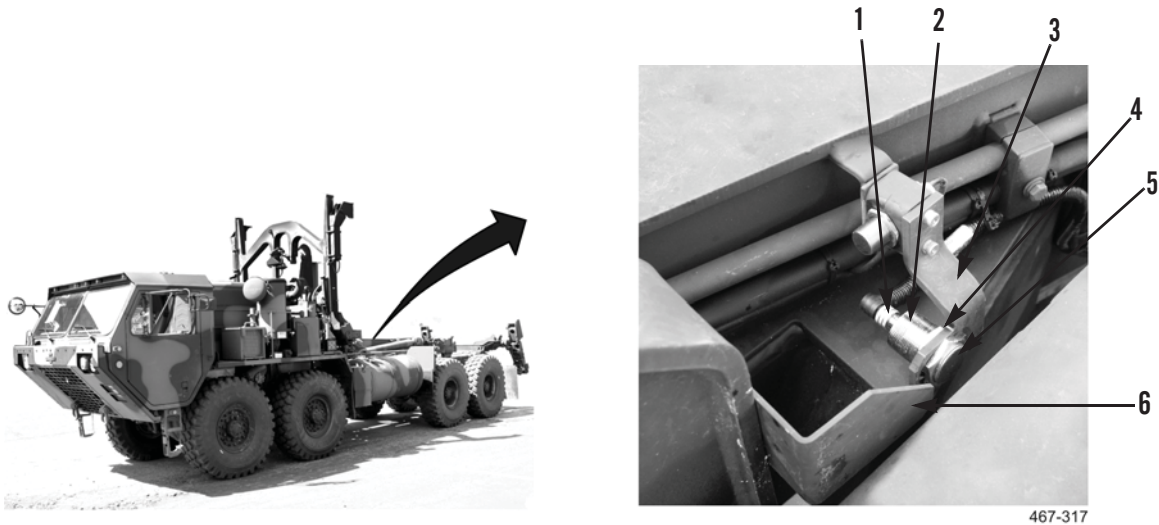

Figure 16. Hook Arm Sensor Calibration.
5. Adjust nut (Figure 16, Item 4) until face of sensor is 0.0625 to 0.1875 in. (2 to 3 mm) from sensor plate (Figure 16, Item 6).
6. Slide hook arm sensor (Figure 16, Item 2) on bracket (Figure 16, Item 3) toward sensor plate (Figure 16, Item 6) and identify position where sensor light (Figure 16, Item 1) turns on. Tighten nut (Figure 16, Item 5) at that position.